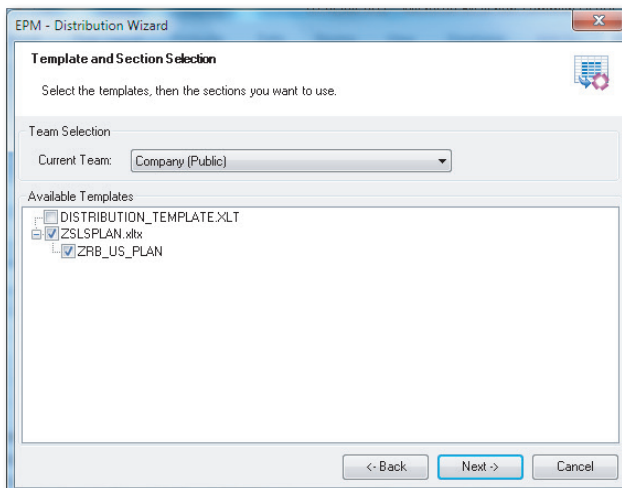

Figure 7.24 Offline Distribution Wizard—Part C
4. You are prompted to select the distribution template and identify the sections to distribute. More than one distribution template can be selected and distributed at once. After making the selections, click on the NEXT button (Figure 7.24).